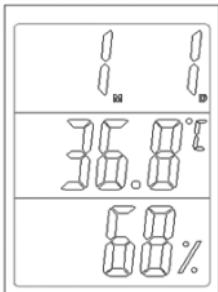

Fig. 3
5. Press **MODE** button to advance to *month* and use the **ADJ** button to change to desired setting (see Fig. 3).
6. Press **MODE** button to advance to *date* and use the **ADJ** button to change to desired setting (see Fig. 3).